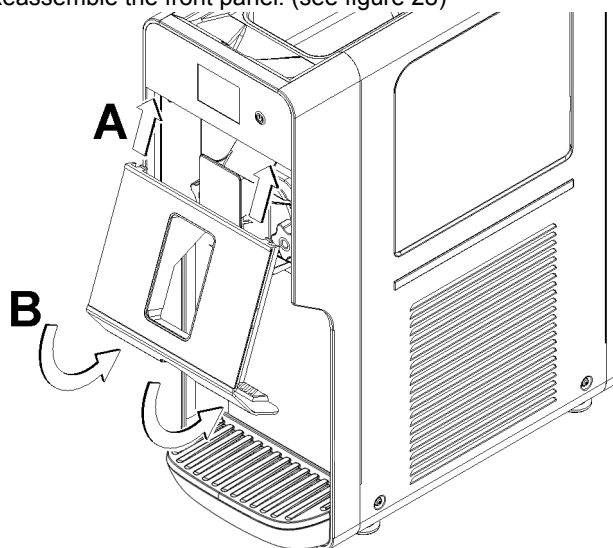

figure 28
- 6 Reassemble the front panel. (see figure 28)